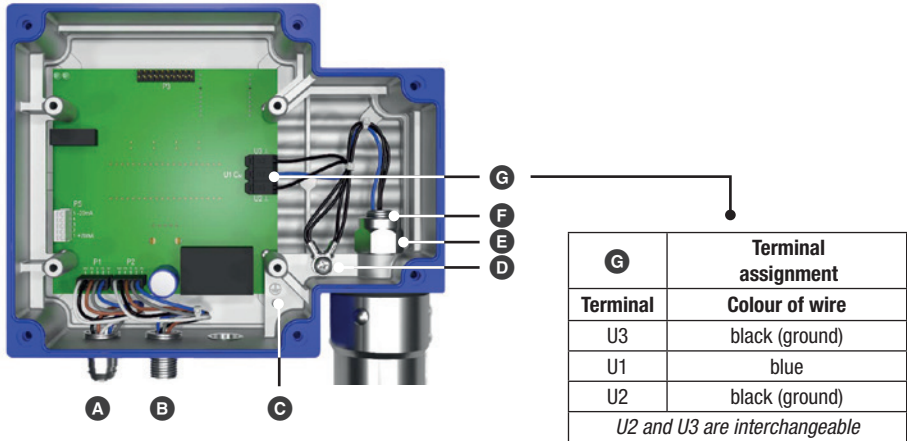

Fig. 11
10. Reconnect the electrode wiring to the PCB, see table in **Fig. 11**.
- ① Fig. 11, 12: Flange (PN 40, DN 50) EN 1092-1 (single electrode)